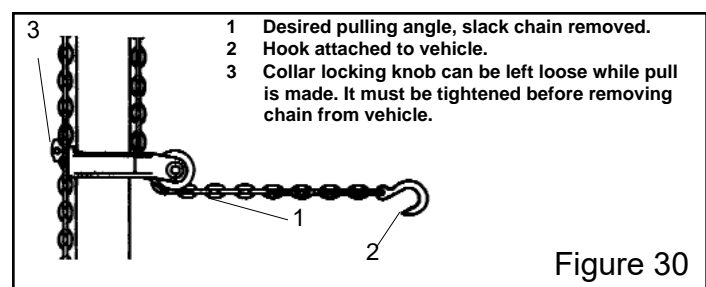

Figure 30
7. Let tower chain hang free momentarily to remove twist. Then without twisting chain, attach hook to the vehicle. Pull on tail end of chain to remove slack (see Figure 30) and then lower collar.